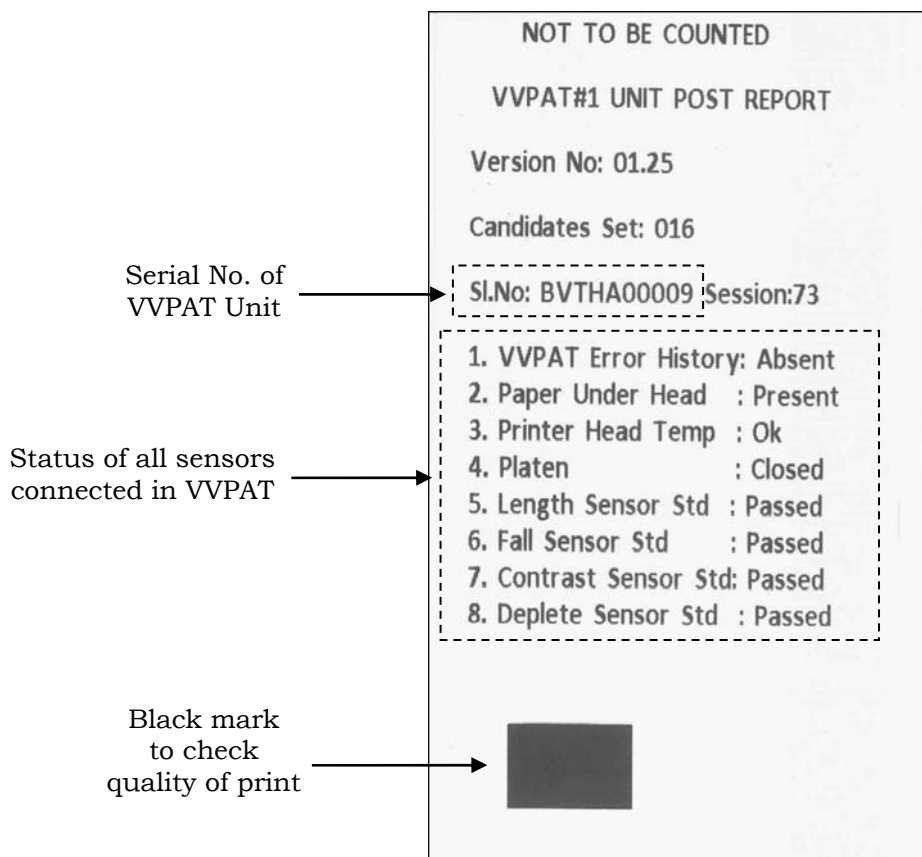

Figure 7.3 - Detail Description of POST-Report
- (b) A sample photo of POST report is shown in Figure 7.3.